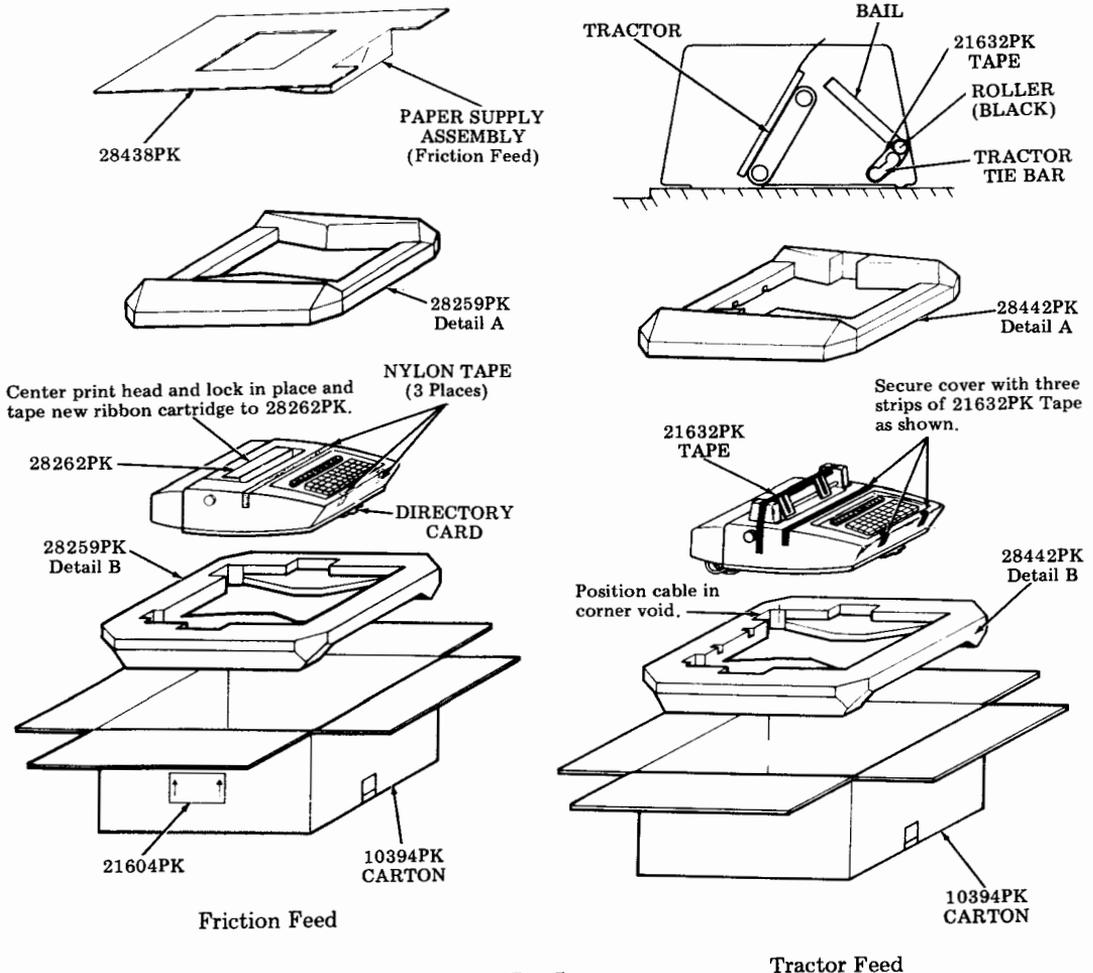

Fig. 5
5.03 Tape the units as shown in Fig. 5.
5.04 Using the proper containers and packing detail, pack the 43 teleprinter as shown in Fig. 5.